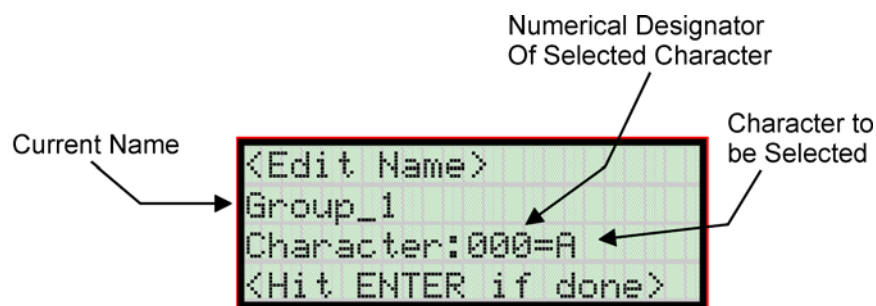

Figure 7-7 Selecting Character for Group Name
7. To edit the group name, press **1**. A screen similar to the one shown in Figure 7-7 displays.